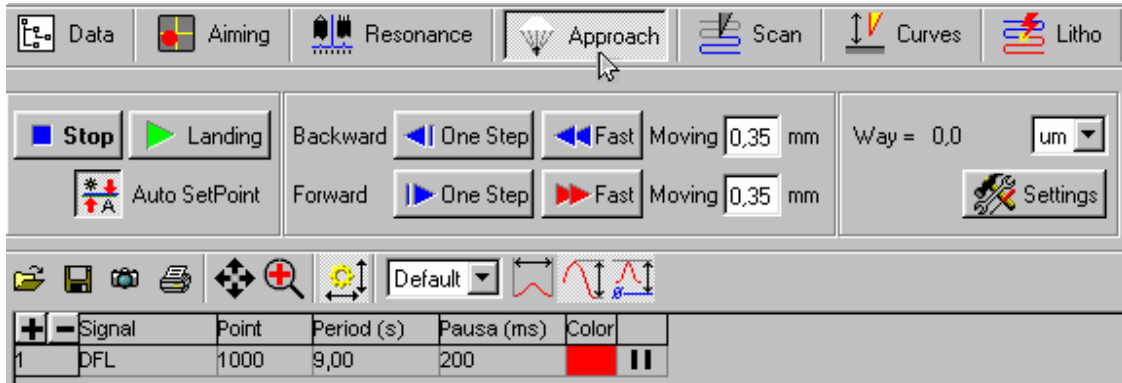

Fig. 3-6
1. Go to **Approach** window using **Approach** bookmark of the operations bar (Fig. 3-6);